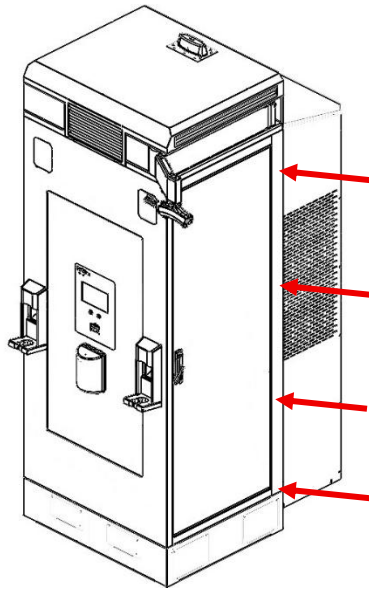

Figure 8 – Use caulk remover in between Charger's back wall and heat exchanger (HX)
4. Remove Heat Exchanger (HX).
- Use a plastic caulk remover to avoid paint loss (and rusting) on charger (Figure 8).